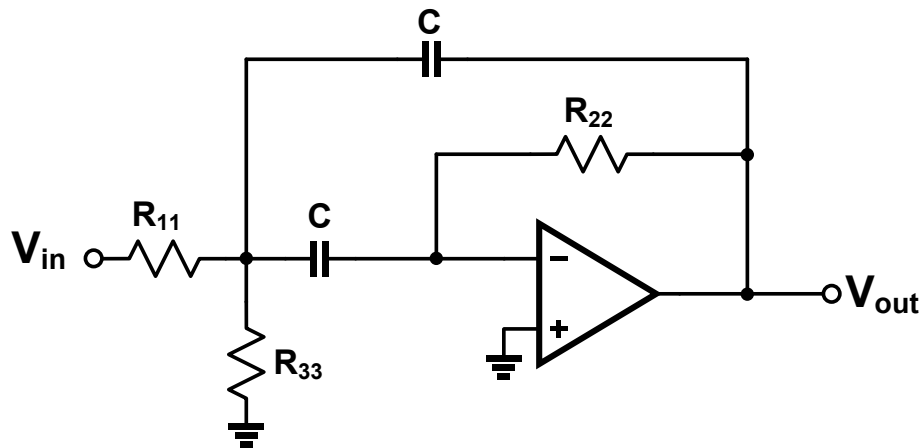

Figure 4-1 A second order bandpass filter
1. Derive the transfer function of bandpass filter shown in Figure 4-1 and prove that it is a second order bandpass filter having transfer function equivalent to:  $H(s) = \frac{A_o \cdot \frac{w_o \cdot s}{Q_o}}{s^2 + \frac{w_o \cdot s}{Q_o} + w_o^2}$ . Find the values of resistors and capacitors for BPF-1 and BPF-2 based on values (Ao, fo and Qo) provided in the Specifications.